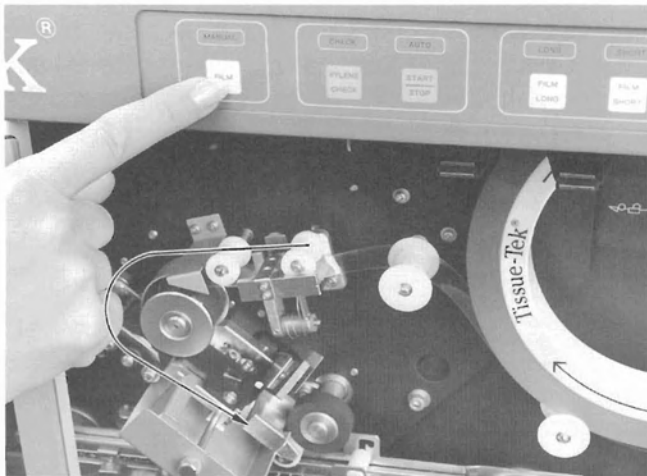

Figure 4-3
- c. Press and hold the FILM keypad. The end of the film should be captured and begin to feed automatically. If this does not occur, carefully feed the film with the other hand while continuing to hold the FILM keypad. The film will then continue to thread through the roller and film press system (Figure 4-3). Release the keypad when the film is just past the blade ($\frac{1}{8}$ to $\frac{1}{4}$ inch [3 to 6 mm]).